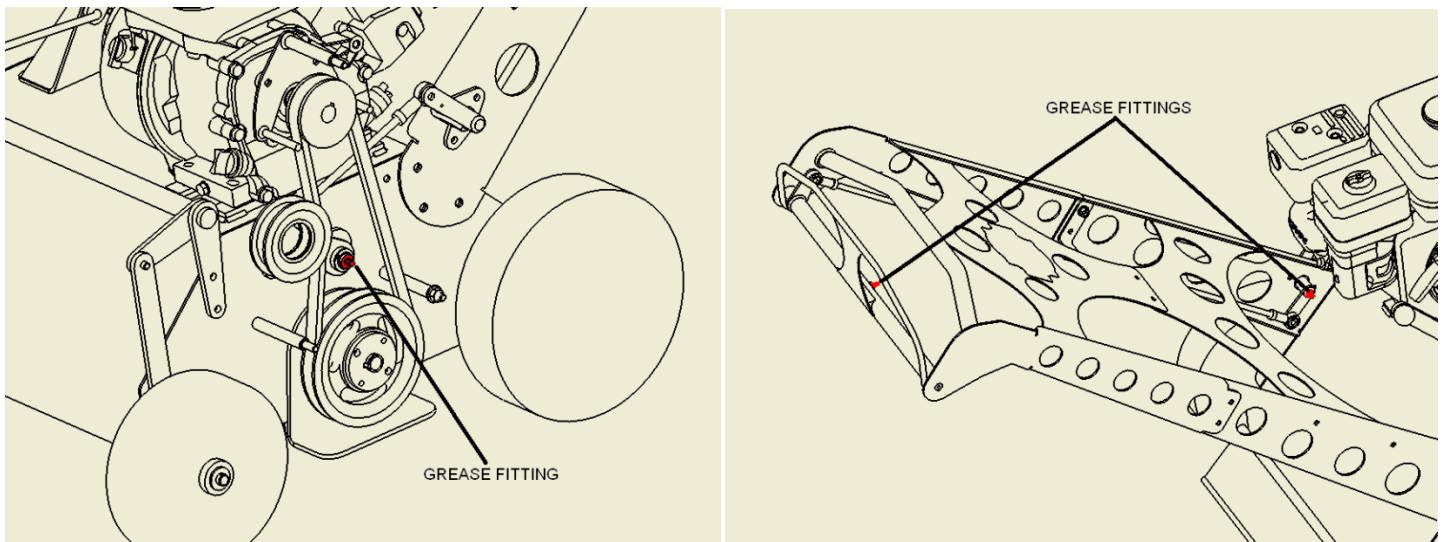

Figure 4
5. **Grease fittings should be lubricated once a month. (See figure 4 to locate all three grease fittings)**